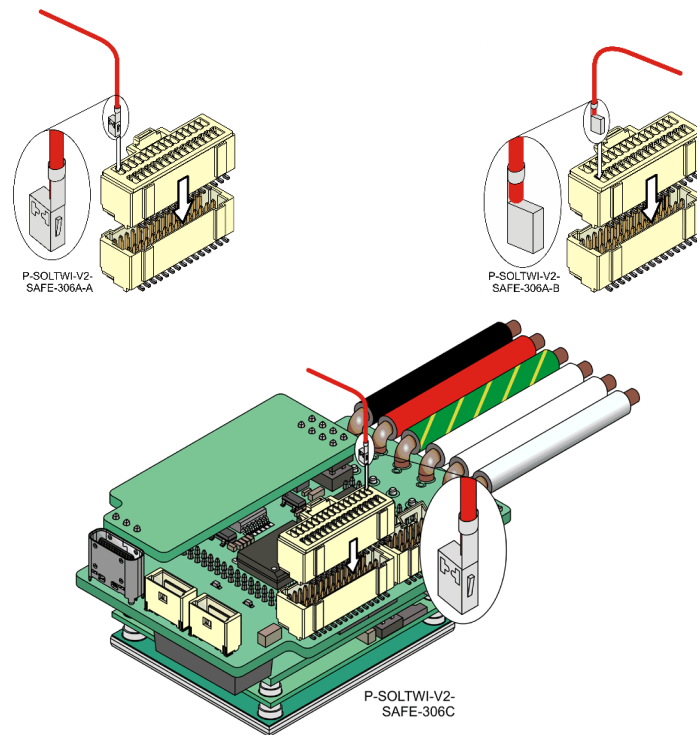

Figure 9: Inserting a wire/pin to the Female Connector
3. Place the connector on a flat surface, in the orientation as shown in Figure 9. Notice that the rectangular slot has a niche at the bottom of the slot.
4. Insert the wire connector to the slot as shown in Figure 9. Make sure that the connector protrusion is inserted to the bottom of the rectangular slot.